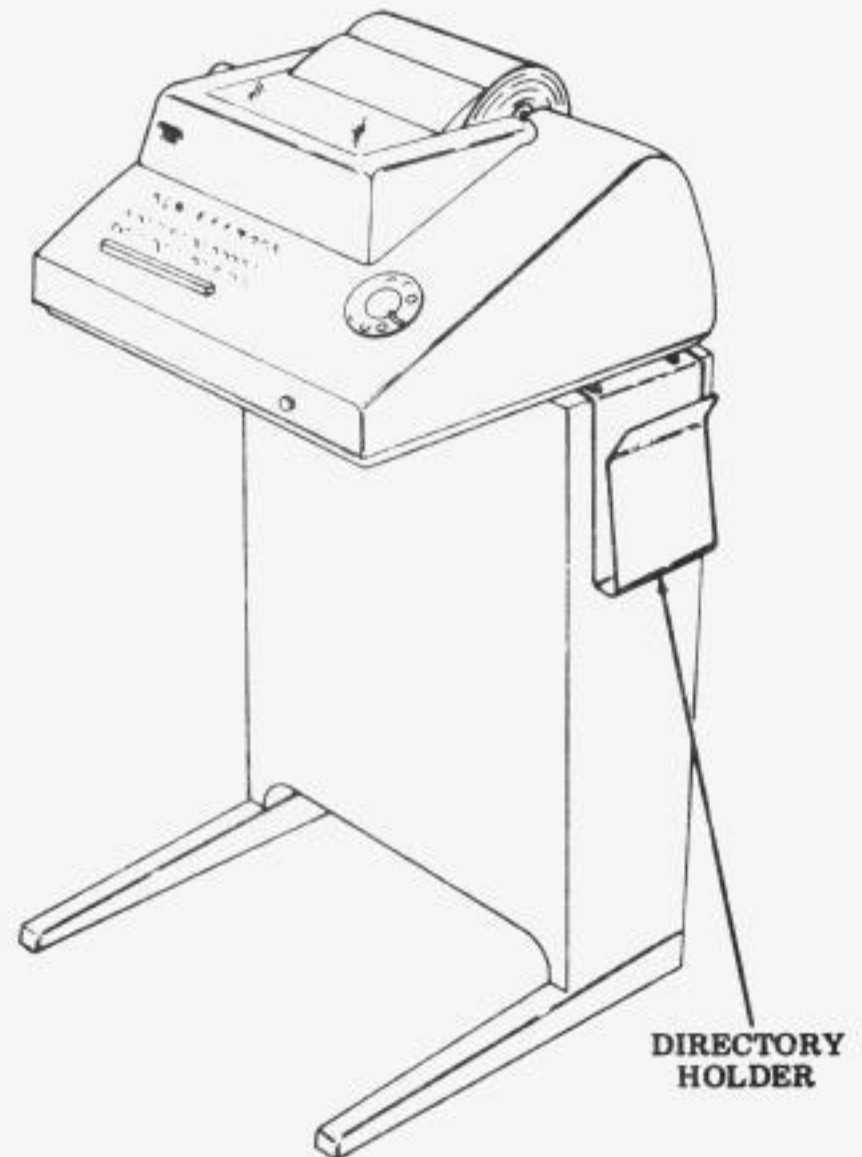

Figure 24 - Cabinet With Directory Holder
2.64 The directory holder is mounted to the cabinet (see Figure 24) by means of an adhesive tape fixed to the back of the holder. The